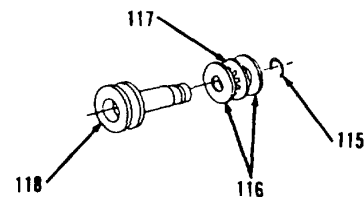

Figure 3-131.
17. Remove ring (115), two races (116) and bearing (117) from riser (118, Figure 3-131).